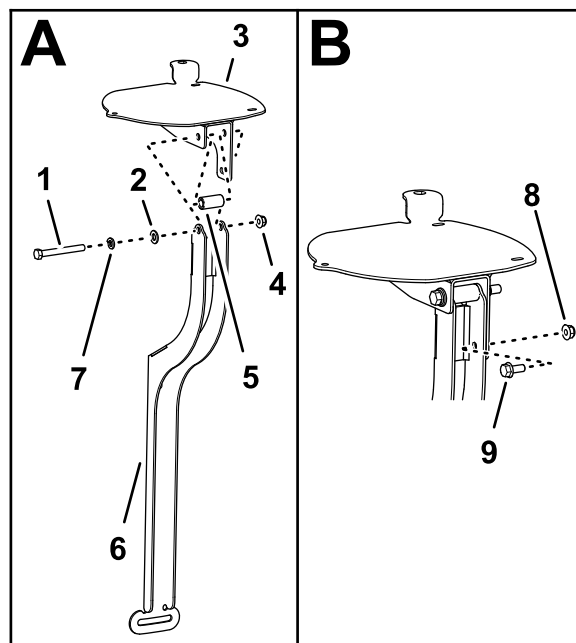

Figure 153
1. Align the holes in the navigation-receiver plate, spacer (3/8 x 1 inch), and receiver mount (Figure 153).
2. Assemble the receiver plate and spacer to the mount with a bolt (3/8 x 3-1/4 inches), lock washer (3/8 inch), washer (3/8 x 13/16 inch), and flange locknut (3/8 inch) as shown in Figure 153.
3. Assemble the flange-head bolt (5/16 x 3/4 inch) and flange locknut (5/16 inch) through the smaller hole in the receiver mount and the slot in the receiver plate (Figure 153).